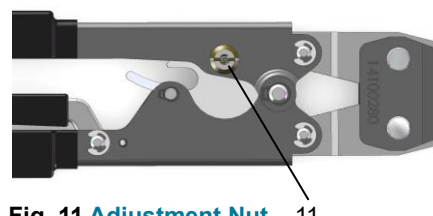

Fig. 11 Adjustment Nut 11
4. Using a straight blade screwdriver, tighten the **Adjustment Nut (Fig. 11)**.